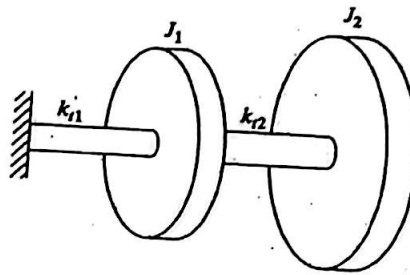

FIGURE 5.28
5.28 Determine the natural frequencies and normal modes of the torsional system shown in Fig. 5.28 for  $k_{r2} = 2k_{r1}$  and  $J_2 = 2J_1$ .